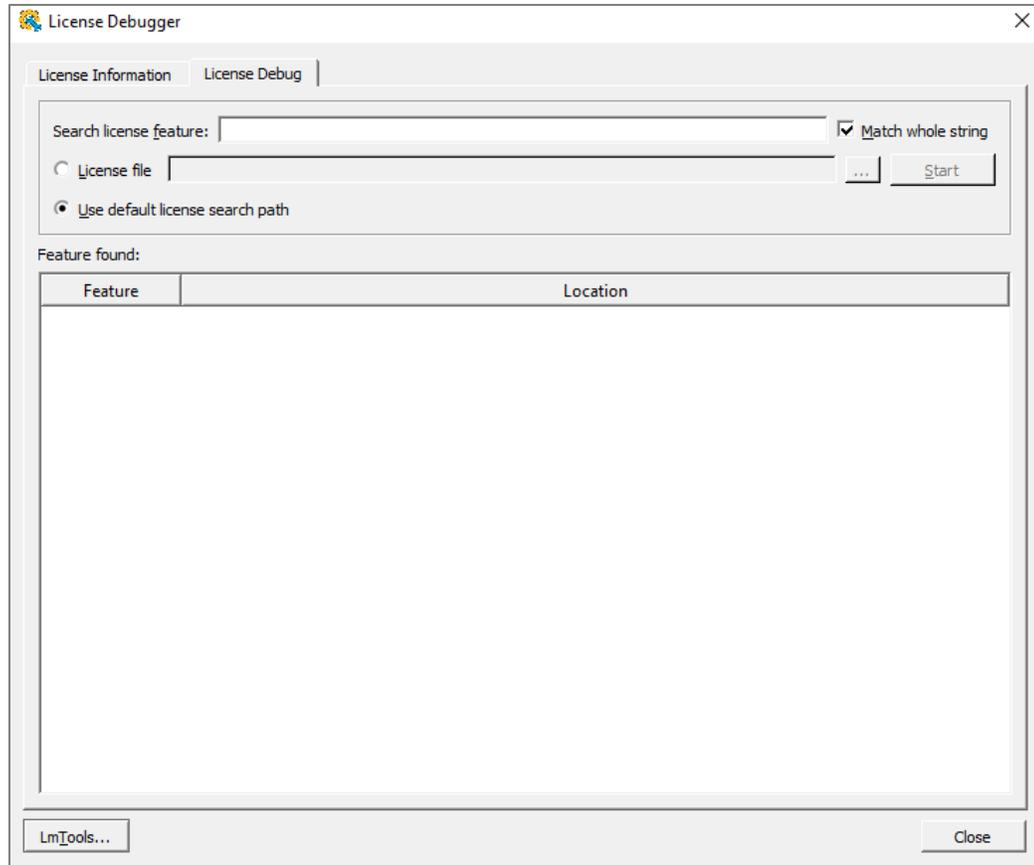

Figure 2.137. License Debugger Tool – License Debug
2. Click the License Debug tab (Figure 2.137).